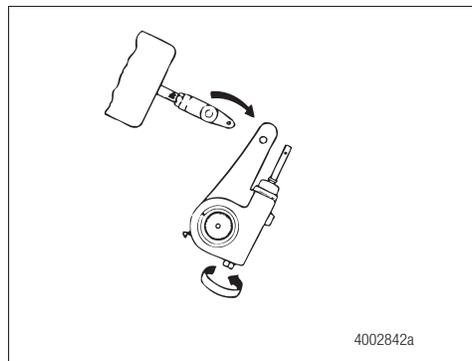

Figure 18
5. Remove the clevis pin(s) from the clevis on the automatic slack adjuster and rotate the slack adjuster away from the clevis. Figure 18.